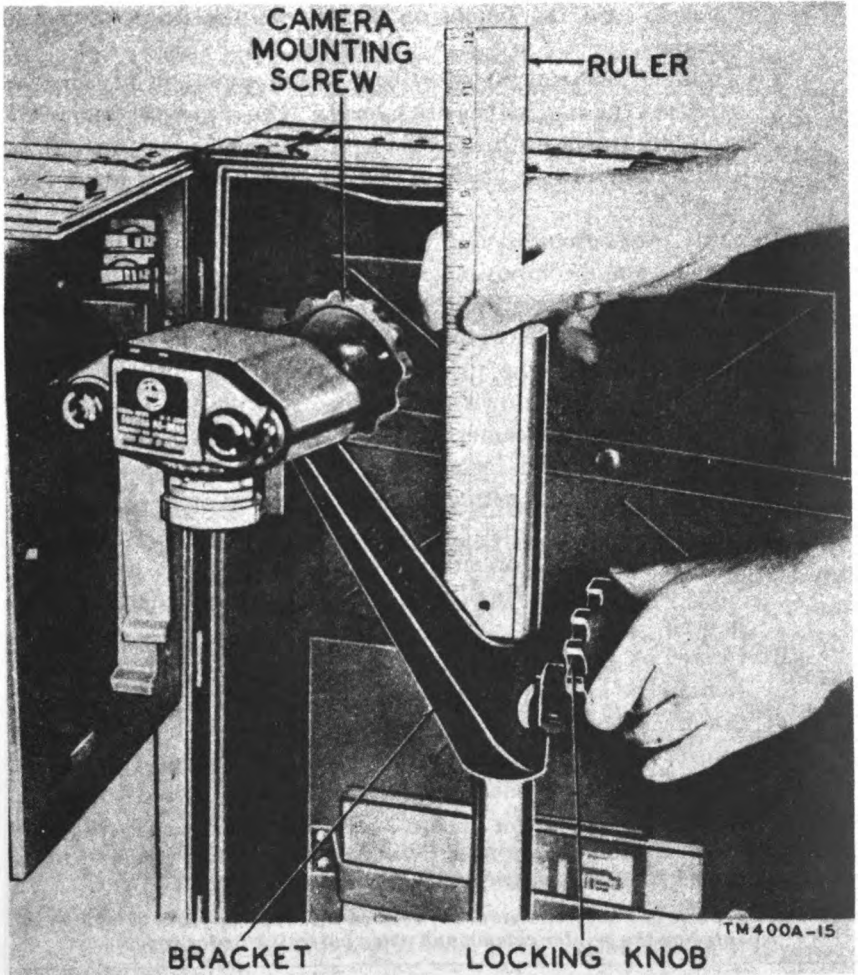

Figure 15. Measuring to set distance from lens to subject.
a. General. Copying by photography provides accurate reproductions of photographic prints, drawings, sketches, manuscripts, typed and printed matter, and many similar subjects. Photographic copies of these subjects can be made with Camera PH-324-A mounted on the enlarger bracket and fitted with a supplementary lens (par. 4e (5)).
- (1) Medium-speed, fine-grain films, such as Eastman Panatomic X, Dupont Superior No. 1, and Ansco Finopan. These films may be used for general work because they have good latitude and are capable of reproducing delicate graduations.
- (2) Slow-speed, extremely fine-grain films, such as Eastman Microfile, Dupont Microcopy, and Ansco Minipan. These films may be used when copying maps, charts, handwritten or typed documents, printed matter, and line drawings because of their ability to resolve fine detail. Where only black and white charts are to be copied, positive film may be used. This film is ordinarily used to make film positive from 35-mm negative and can be used in copy work where no colored material is to be copied.
c. Setting Up for Copying (fig. 15).
- (1) Load Camera PH-324-A with the proper negative film for the subject. The lens should be stopped down to about $f/16$ to provide a depth-of-field leeway for correcting slight inaccuracies of focus.
- (2) Center on the baseboard the original material to be copied. Loosen the locking knob on the column bracket and move the camera up or down to adjust the distance desired from the subject to the supplementary lens. The 12-inch ruler (fig. 15) is useful for measuring the lens-to-subject distance.